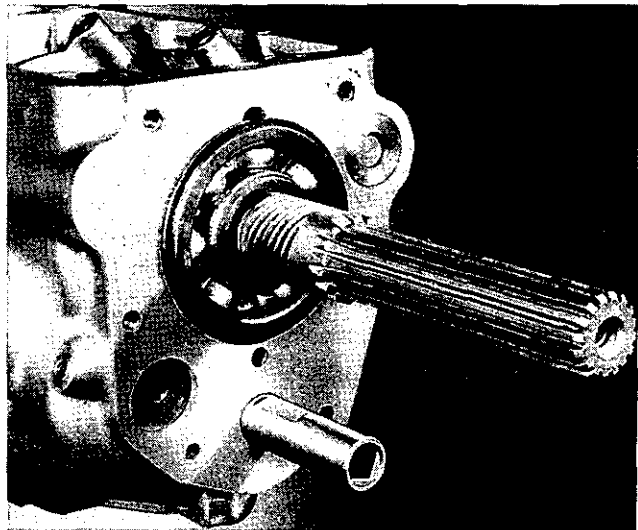
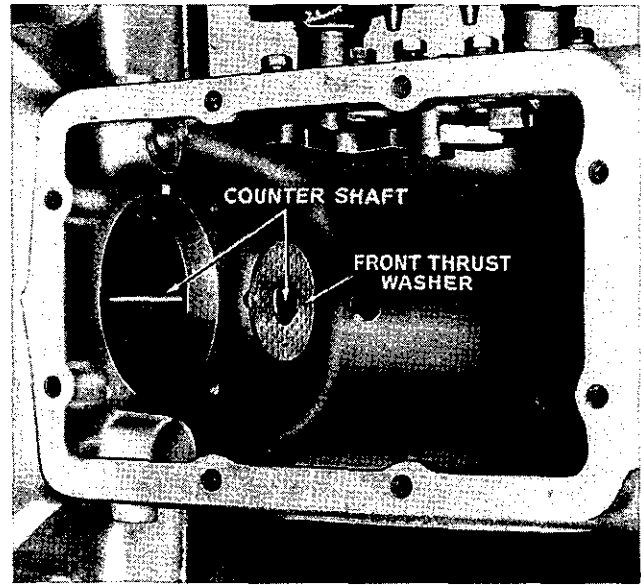
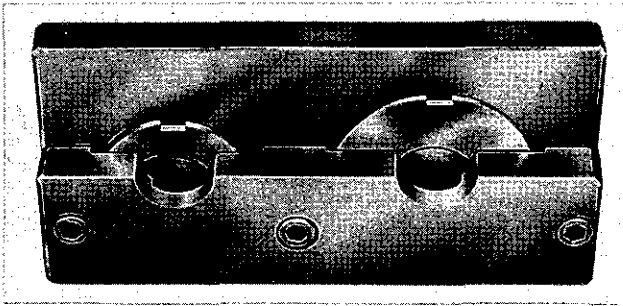

Fig. 5. Needle roller retainer tube—Churchill Tool No. 20SM-77
Fig. 15. Positioning front thrust washer with countershaft
Fig. 16. Gauging countershaft thrust washers with Churchill Fixture No. 20SM-82
9. After removal of the countershaft front cover plate which is secured by two wired setscrews and spring washers ( $\frac{7}{16}$ " A/F spanner) drive out the countershaft, with a suitable tube, as shown in Fig. 5 to retain the 48 needle rollers in position, maintaining contact throughout between the tube and countershaft.
7. Having fitted rollers, apply retainer, as shown in Fig. 5 and after locating the front thrust washers with the countershaft (Fig. 15) and the smaller one with grease—position the assembly in the casing. Before fitting new thrust washers gauge these as shown in Fig. 16. The correct end float for the countershaft gears should be between .006"—.010". If there is insufficient end float, the distance collar should be reduced as necessary by rubbing this down on a piece of emery cloth placed on a surface plate. Where too much end float exists new thrust washers and/or distance piece should be fitted.